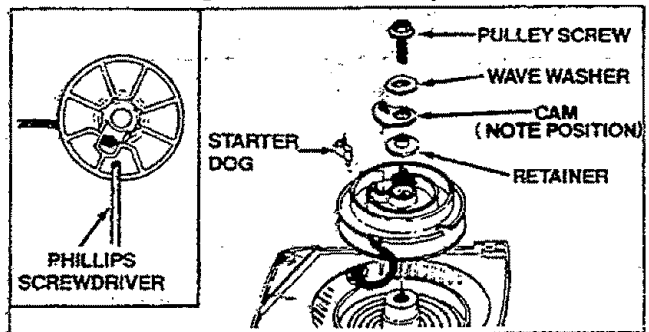

Figure 39
8. Feed the rope through the round starter hole in the the fan housing. Figure 39.
9. Guide rope inside pulley, then through topside pulley hole by pushing the rope from the underside hole with a small round object, such as a Phillips screwdriver. See inset. Figure 39.
NOTE: If you remove the pulley screw from the pulley make sure the starter dog, retainer, cam and wave washer are positioned and installed properly as shown in Figure 39. If parts have been cleaned, apply a small amount of grease to both sides of the cam and wave washer.
14. Make sure the cam is installed on the starter dog in the direction shown in Figure 39. Also make sure the wave washer is seated around the top outer edge of the retainer and not caught between the top of the retainer and the pulley screw.